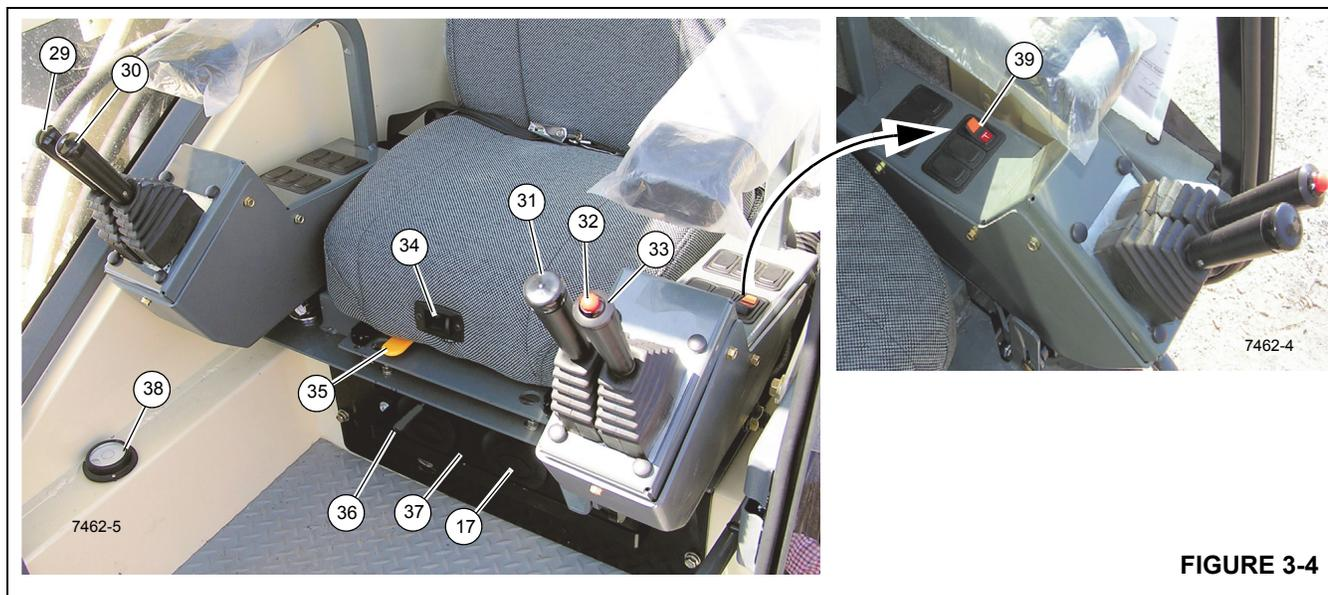
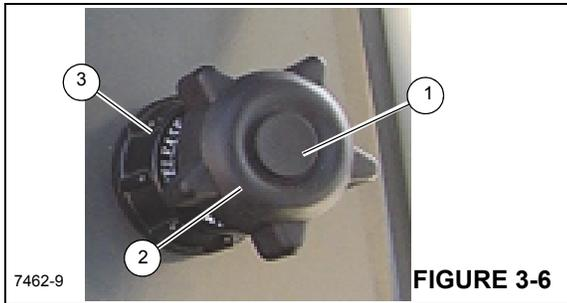

FIGURE 3-4
FIGURE 3-6
The secondary level indicator is located in the crane cab (38, Figure 3-4)
The foot throttle (4, Figure 3-4) is located on the crane cab floor and is used to control the engine speed. Depress the
The hand throttle (11, Figure 3-4) must be positioned as shown in Figure 3-6 to operate the foot throttle properly.
The push/pull hand throttle (11, Figure 3-4) is located on the crane cab console and has the following functions.
Increase Engine Speed - Push in and hold the center button (1, Figure 3-6); pull out on the knob (2) to accelerate the engine. Releasing button (1) will lock knob in place and maintain engine speed.
Decrease Engine Speed - Push in and hold the center button (1, Figure 3-6); push the knob (2) in to slow the engine speed.
Incremental Speed Adjustment - Rotate knob (2, Figure 3-6) clockwise to increase speed and counterclockwise to decrease engine speed.
The hand throttle must be positioned as shown in Figure 3-6 to operate the foot throttle (4, Figure 3-4) properly.
The radio remote switch (19, Figure 3-4) is used to enable the radio remote controls. The crane function power switch, crane ignition (13) and truck ignition must all be OFF before the crane can be operated with a radio remote control.
The boom lift control lever (29, Figure 3-4) is located on the right armrest and is used to raise and lower the boom. Push the lever forward to lower the boom and pull back to raise the boom.
The hoist control lever (30, Figure 3-4) is located on the right armrest. Push forward to lower the load and pull the lever back to raise the load.
When equipped *without* the auxiliary hoist the telescope boom control lever (31, Figure 3-4) is on the left armrest. Push the lever forward to extend the boom and pull back to retract the boom.
If equipped *with* an auxiliary hoist the control lever (31, Figure 3-4) is on the left armrest, positioning the lever forward lets out hoist cable. Pulling the lever back reels the cable in.
The warning horn button (32, Figure 3-4) is located on the swing joy stick. Push the switch to sound the horn to warn fellow workers of pending movement of crane.